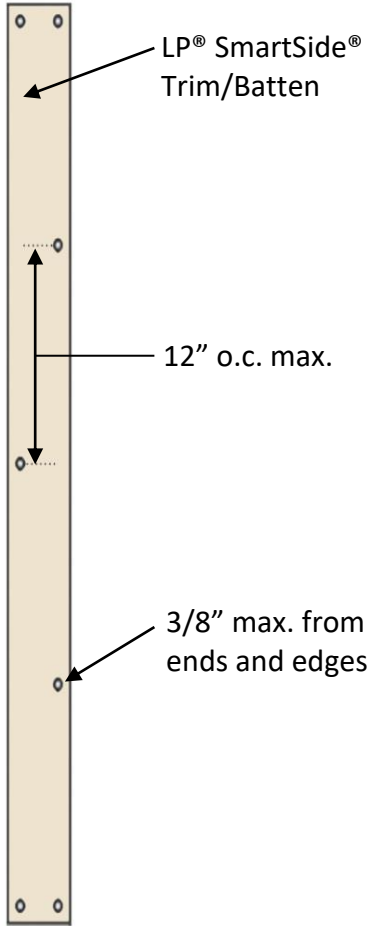

Figure 1
- Maximum 3/8 inch from ends and edges (*See Figure 1*)
- Fastened with two nails at both ends, with additional fasteners spaced a maximum of 12 inches o.c. along alternating edges the length of the batten (*See Figure 1*)